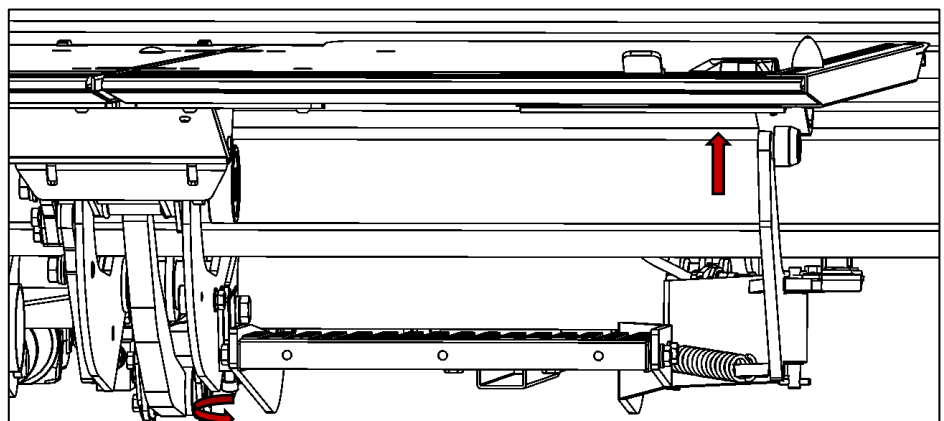

Fig. 74
- Rotating the adjustment screw (1) to the right lifts the support arm (4).
- Rotating the adjustment screw (1) to the left lowers the support arm (4) (see Fig. 74).
- When finished adjusting, tighten the bolt (3) for securing the torsion bar to 115 Nm (see torque table on page 68).